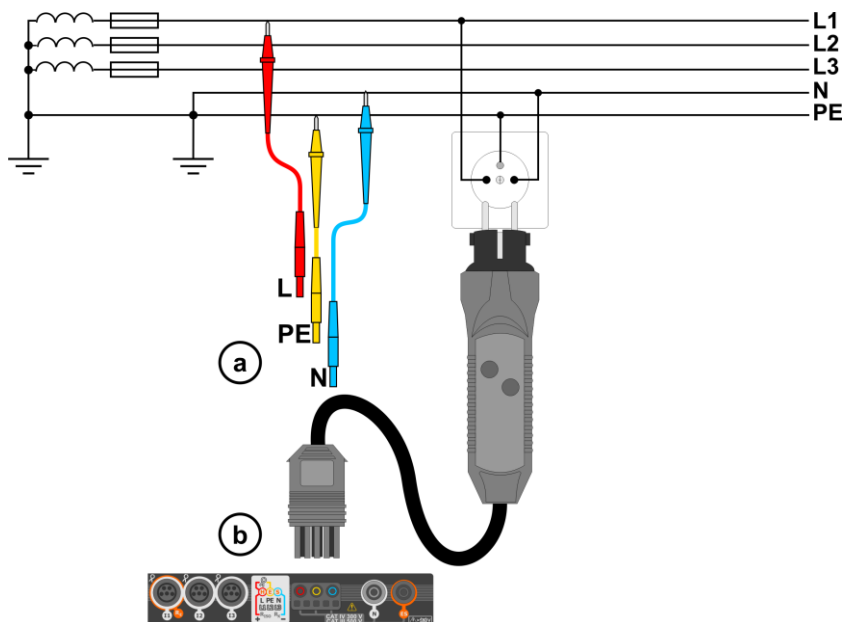
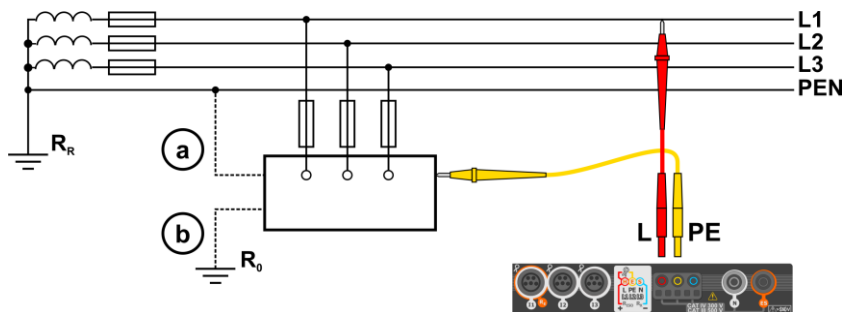

Fig. 3.1 Measurement in L-PE circuit
Fig. 3.2 Checking effectiveness of protection against electric shock of the meter housing in case of: (a) TN network or (b) TT network
- ① Connect test leads according to **Fig. 3.1** or **Fig. 3.2**.